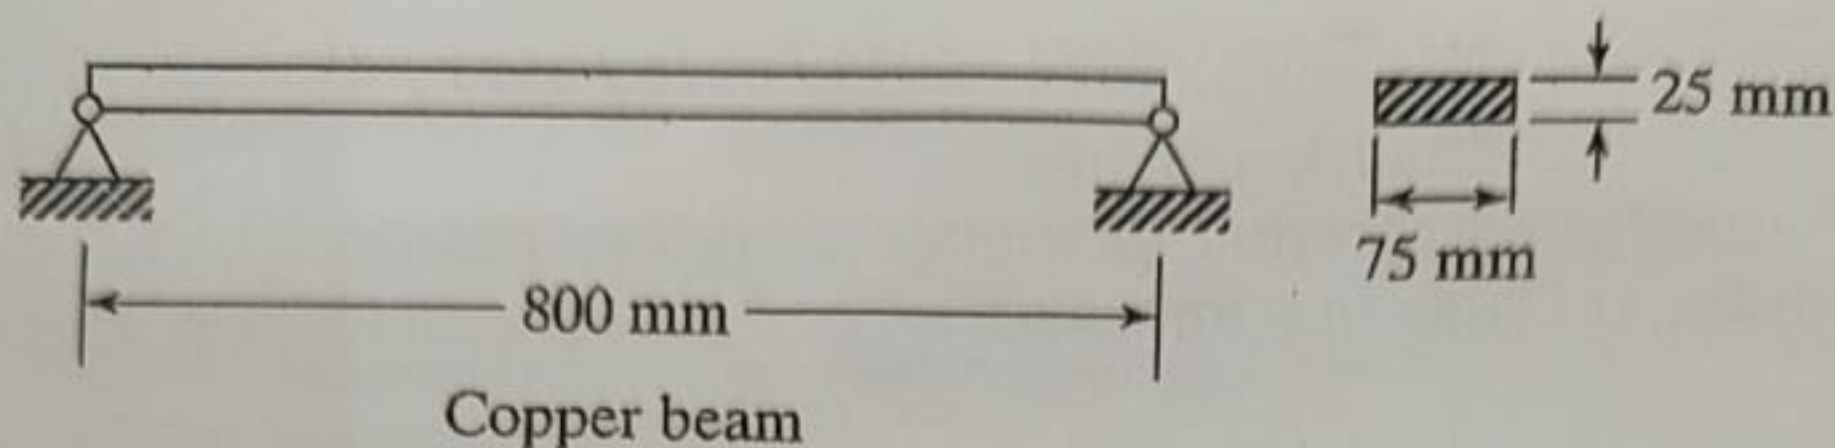

Figure 2
5. Determine the first natural frequency of the simply supported beam, shown in the figure 2, using a single linear element model. Assume Elastic modulus, $E = 120 \text{ GPa}$, and density of the material, $\rho = 8.9 \text{ kg/m}^3$. [12]